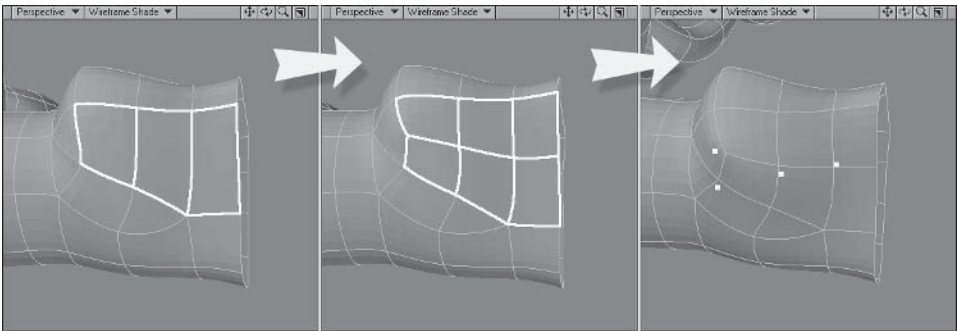

Figure 5.4-33. Defining the palm.
- 11. Select the three polygons shown in Figure 5.4-33 and select **Cut**, using the default values.
- 12. Adjust the points of the cut to match Figure 5.4-33.